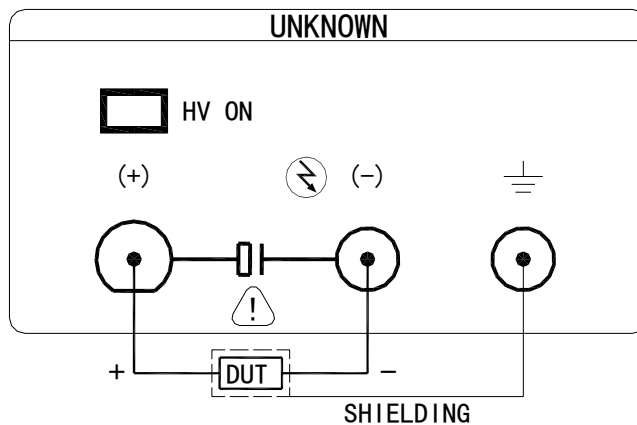

Figure 4-2 Measurement Connection
- 5) Connect the DUT to the UNKNOWN terminals as shown in the following figure 4-2